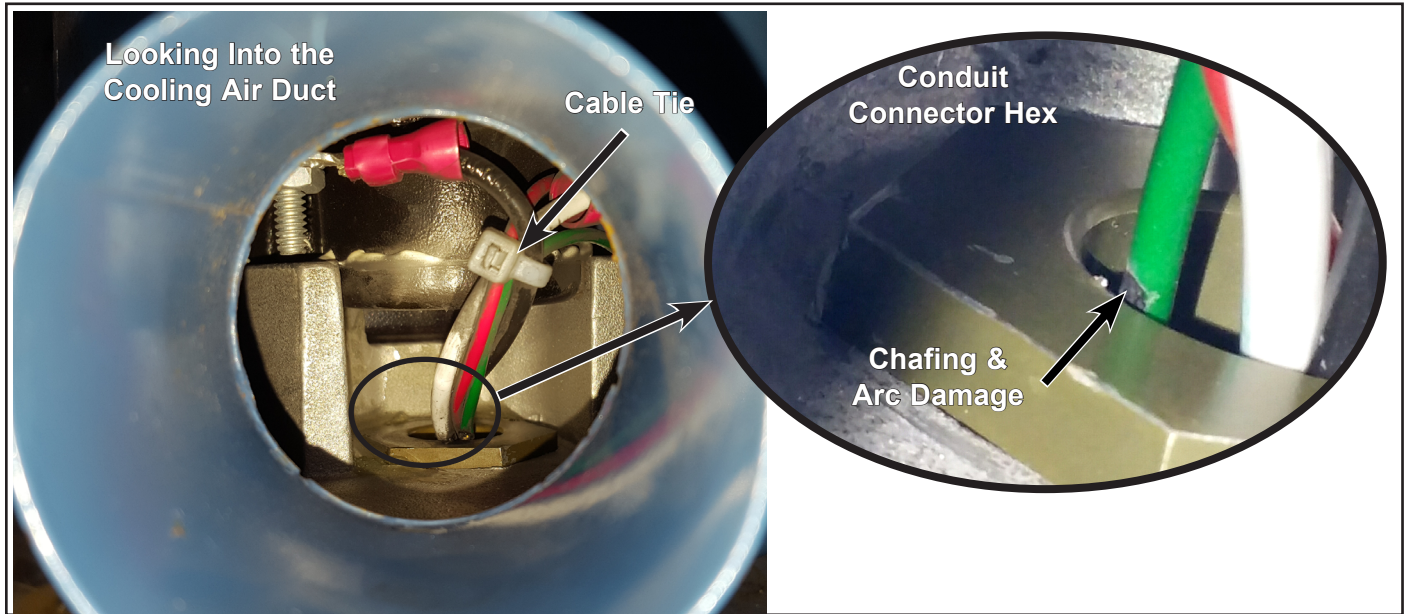

Figure 1 - Wire Harness Chafing Condition
- (10) Wrap the spiral insulation over the four wires using a screw action, inserting it until the spiral insulation seats against the cable tie and passes the area of the conduit connector where chafing may occur.
- (a) Tighten the spiral insulation wrap to limit any gaps. Refer to Fig. 1 and Fig. 3.
- (11) Push the knurl collar with retained grommet along the wire harness to the conduit connector.
- (12) Thread the knurl collar onto the conduit connector.
- (19) Install a cable tie to secure the wire harness at the base of the conduit connector shown in Fig. 1.